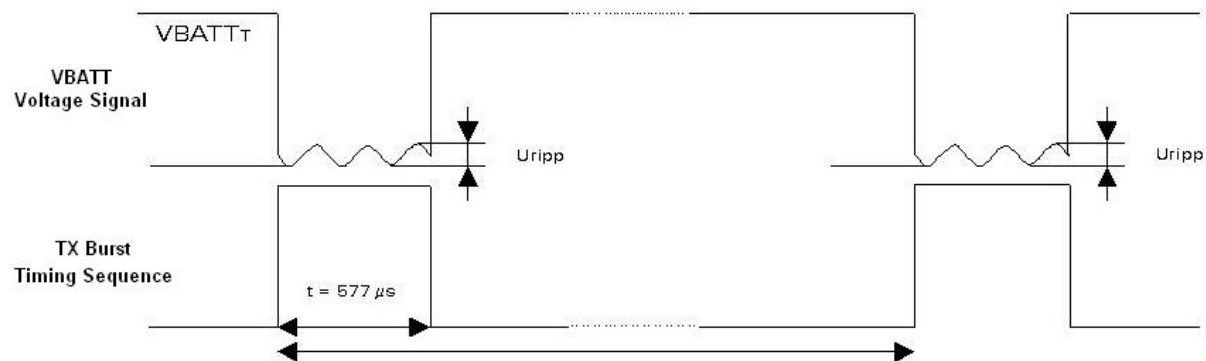

Figure 2. Power Supply During Burst Emission
- GSM/GPRS class 2 terminals emit $577\mu\text{s}$ radio bursts every 4.615ms (see Figure 2 Power Supply During Burst Emission)